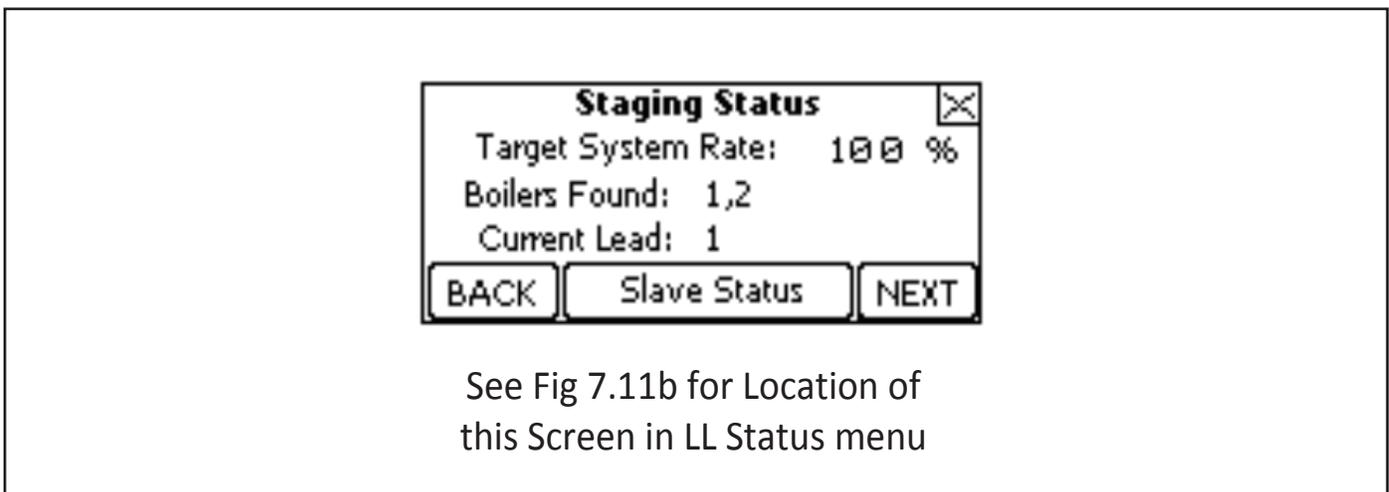

FIGURE 7.4: LEAD-LAG STAGING SCREEN
- d) Navigate to the Master’s Staging Status Screen (Figures 7.4 & 7.11b). Verify that this screen shows the address of all boilers in the system.